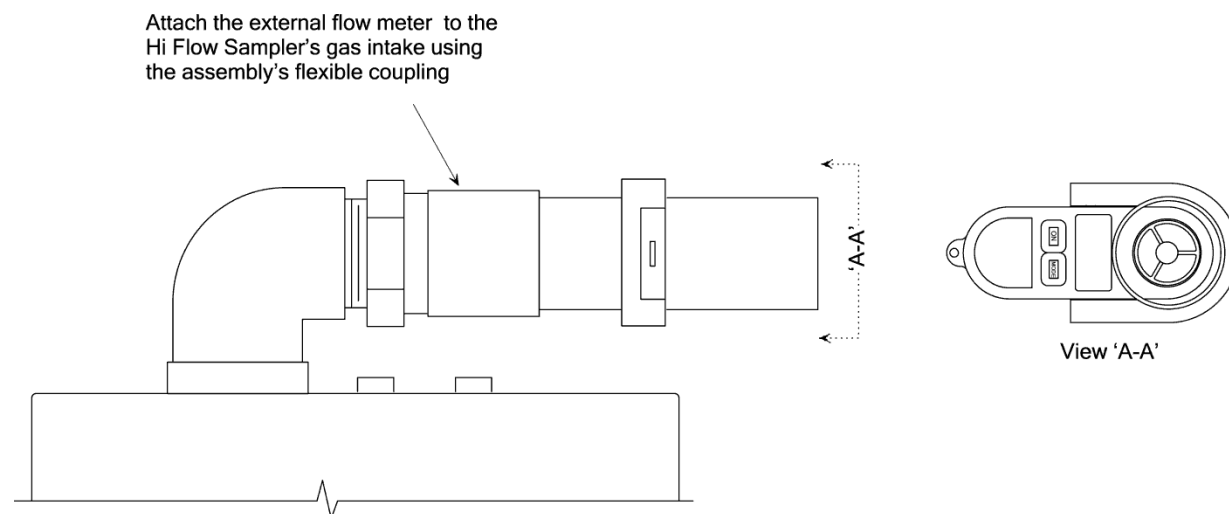

Figure 4-7. Flow Meter Installation
1. Install the flow meter onto the Hi Flow® Sampler's gas intake (see Figure 4-7).